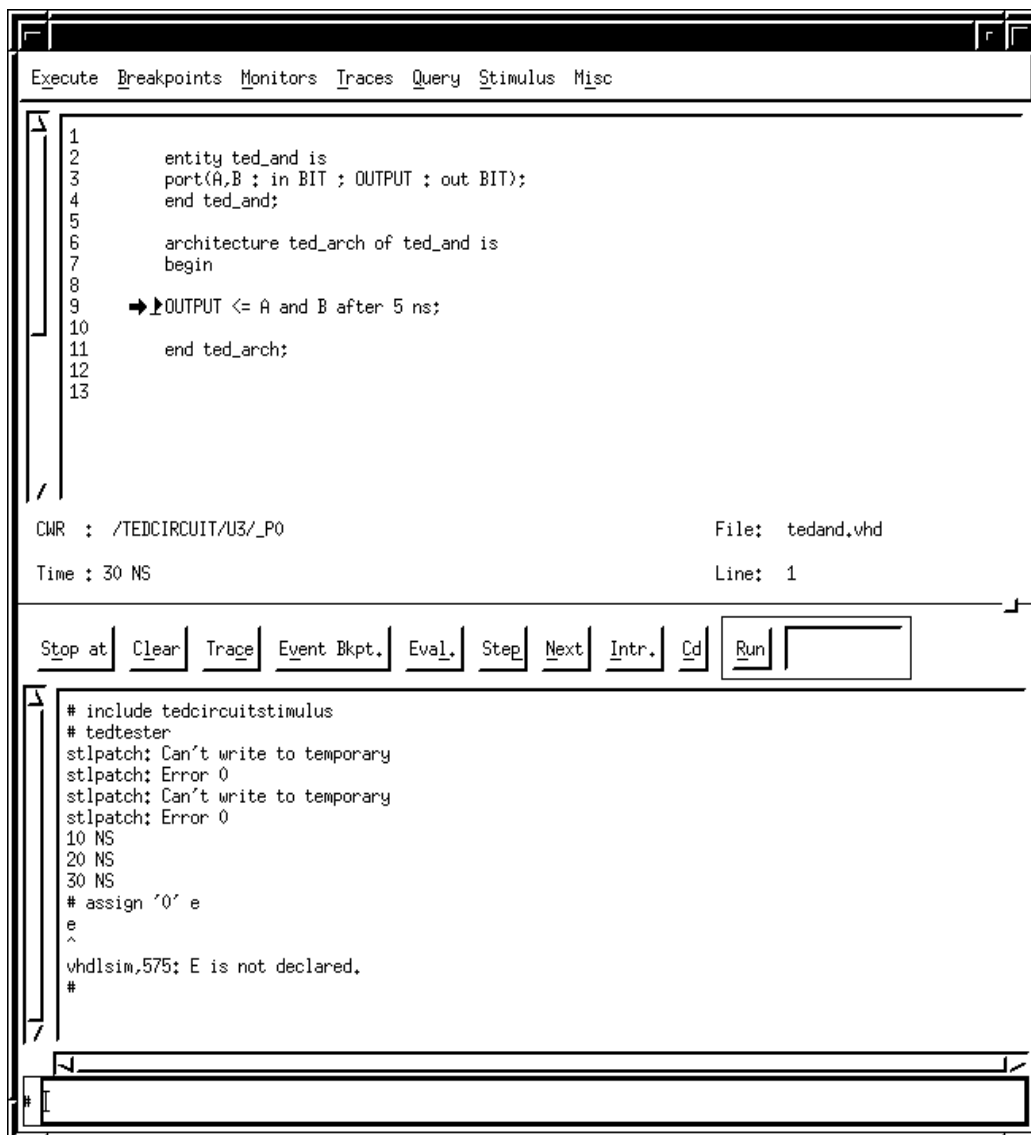

Figure 8: Descending to another level of hierarchy during simulation.
(8) The simulator will open the Waveform Viewer window (since the command file included a trace command) and will execute the commands contained in the file tedcircuitstimulus. See the results of the simulation on the next page.
(9) At this point you may be wondering why it is necessary to specify signal names using the arcane format of *top\_level\_entity\_name/signal\_name*. The reason for this is that as the simulation proceeds, the simulation tools traverse the hierarchy. In the parlance of Synopsys, The Current Working Region changes as the simulation proceeds. Observe the VHDL Debugger window after issuing the commands listed in step 7 (see Figure 8). The source code window now lists the VHDL code for the entity-architecture of the ted\_and gate. The Current Working Region is listed as /TEDCIRCUIT/U3/\_P0. If one were to name signals without the full hierarchical path name, the signal would not be found once the simulation proceeded. For example, try to assign the top-level entity signal E a value of '0' from the simulator prompt: